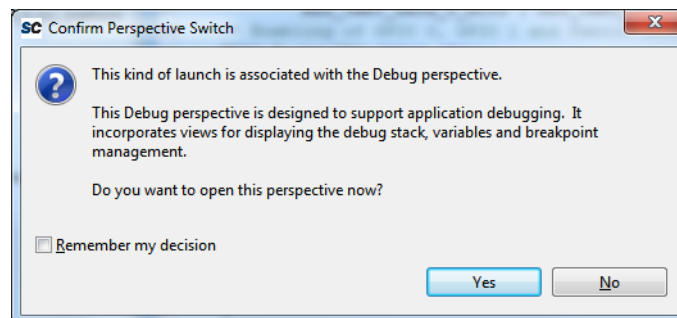

Figure 6-12 • Confirm Perspective Switch
5. Click **Yes** when prompted for **Confirm Perspective Switch** (Figure 6-12). This displays the Debug view mode.